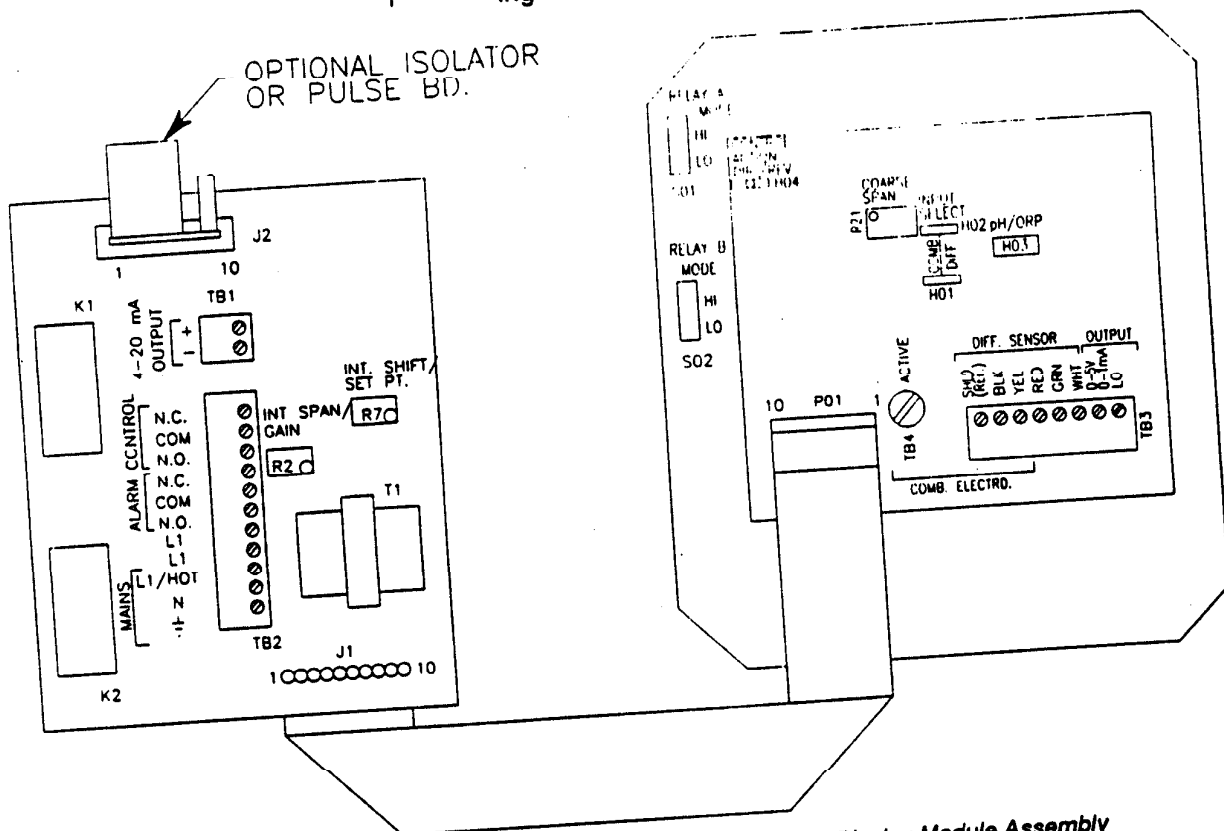

FIGURE 3-2 Controls On Power-Supply Board, Backside of Display Module Assembly And Electrical Hook-up Details
To access terminal strips for electrical connections, loosen four thumbscrews and open enclosure door. Carefully remove display module assembly by loosening the two captive fasteners (Figure 3-1 on page 19). If necessary, the ribbon-cable connector may be disconnected from the power-supply board. Figure 3-2 on page 20 shows terminal designations for instrument hook-up.
Frequently used controls are located on front of the display board (Figure 3-1). They are accessed by opening the enclosure door which can be easily removed by unsnapping it from its hinge. Seldom used controls are located on the back-side of the display module assembly (Figure 3-1) and on the front of the power-supply board (Figure 3-2). To access seldom used controls, remove module assembly from instrument case by loosening two captive fasteners.
##### 1. pH/ORP jumper (Figure 3-2)
##### 2. INPUT SELECT jumpers (Figure 3-2)
#### 6. **SPAN** control (Figure 3-1) and **COARSE SPAN** control (Figure 3-2)
#### 7. **CONTROL ACTION** jumper (Figure 3-2)
## 8. INT.SHIFT/ST.PT. control (Figure 3-2)
## 9. INT. SPAN/GAIN control (Figure 3-2)
#### 10. RELAY A MODE and RELAY B MODE switches (Figure 3-2)
The instrument is factory-set to measure either pH or ORP. To measure pH, a jumper (H3 located on backside of display module assembly, Figure 3-2) must be installed across circuit board holes designated as "pH/ORP". To measure ORP (millivolts), this jumper must be cut or removed.
The instrument must be programmed to accept the type of sensor input which will be used. For a combination electrode that is to be directly connected to the instrument (within 10 ft.), place **INPUT SELECT** jumpers (H1 and H2 on backside of display module assembly, Figure 3-2) to **COMB** position. For a GLI 5-wire Differential Technique sensor or a combination electrode that is to be connected by way of a GLI Model 714 preamp, place jumpers to **DIFF** position.
The 4-20 mA output on TB1 can represent the measuring scale or a desired segment of it. The **INT. SHIFT/SET PT.** and **INT. SPAN/GAIN** controls (Figure 3-2) are used to make this output correspond with low and high endpoints of the measuring scale or segment. A milliammeter is required to monitor the 4-20 mA output value.
3. Place **CONTROL ACTION** jumper (Figure 3-2) in **DIR.** position.
The proportional controller feature is intended to be used for simple proportional only control applications. The **INT.SHIFT/SET PT.** and **INT.SPAN/GAIN** controls are used to make the 4-20 mA output correspond with the desired controller operating range. A **CONTROL ACTION** jumper (Figure 3-2) is provided to select the direction of control action that the controller will pursue. A milliammeter is required to monitor the 4-20 mA output.
1. If the 4-20 mA output is used, connect milliammeter *in series* with load to OUTPUT Terminals on TB1. If optional pulsed output is used, remove the pulse output board (Figure 3-2) and insert jumper board (supplied with instrument) in its place. This allows the 4-20 mA output that drives the pulse board to be monitored.
3. Place CONTROL ACTION jumper (Figure 3-2) in **DIR.** position. For pH applications, this position is used for acid feed and **REV.** position for caustic feed.
7. If optional pulsed output is used, remove jumper board and insert pulse board in its place (Figure 3-2).
4. If optional pulsed output is used, remove jumper board and insert pulse board in its place (Figure 3-2).
Locate **RELAY A MODE** and **RELAY B MODE** switches (Figure 3-2) and place respective switches in appropriate positions. For this example, set **RELAY A MODE** switch in the **HI** position. For applications that require the relay to turn on in response to decreasing process value, place this switch in the **LO** position and turn respective **ST.PT.** control fully counterclockwise (20 complete turns to the left).